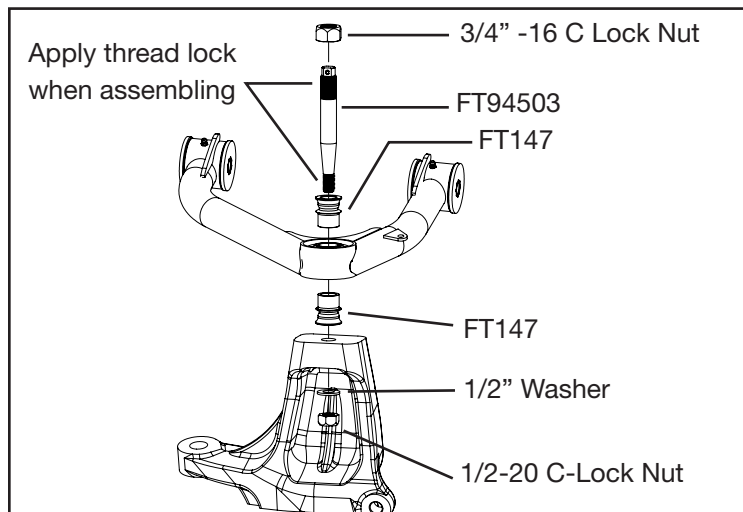

FIGURE 21 - STEP 19
19. SEE FIGURE 21 FOR STEPS 20-24